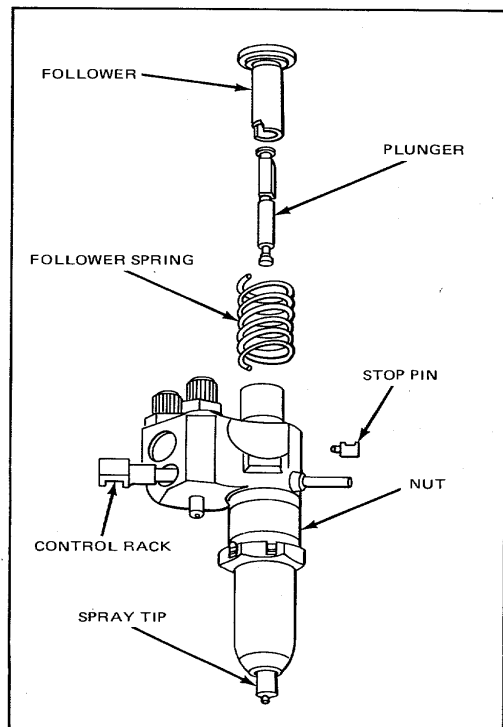

Figure 38. Injector Plunger, Follower and Relative Location of Parts
1. Refer to Fig. 38 and slide the head of the plunger into the follower.